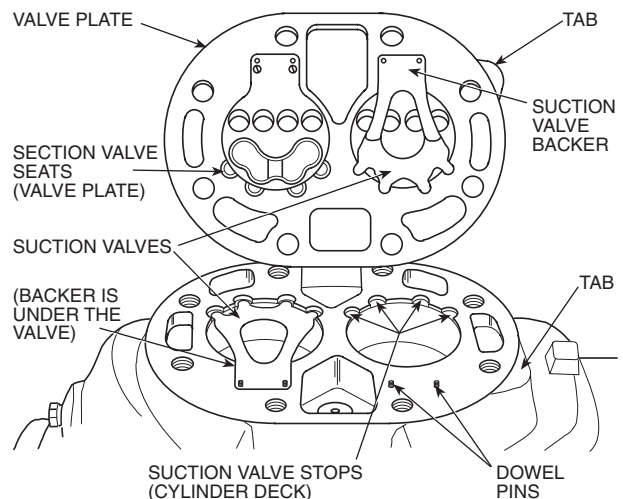

Fig. 15 — Valve Plate Removed
2. Pry up on side lifting tab to remove valve plate and expose suction valves (Fig. 15). Remove suction valves and backers from dowel pins.
REASSEMBLE — Do not interchange valves. Install brackets and suction valves on dowel pins (backer is *under* the valve; see Fig. 15). Place valve plate on cylinder deck and reinstall discharge valve assembly. Retorque discharge valve stop cap screws to 16 lb-ft. Replace cylinder head. (Be sure tab on cylinder head gasket is lined up with tabs on cylinder head and valve plate.)